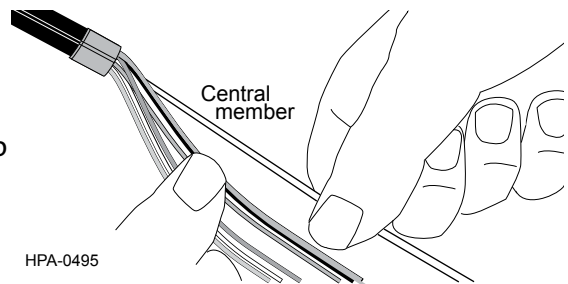

Figure 8
Step 1: Carefully unwind the buffer tubes from around the central member of the cable (Figure 8). Be careful not to bend or kink any of the buffer tubes.